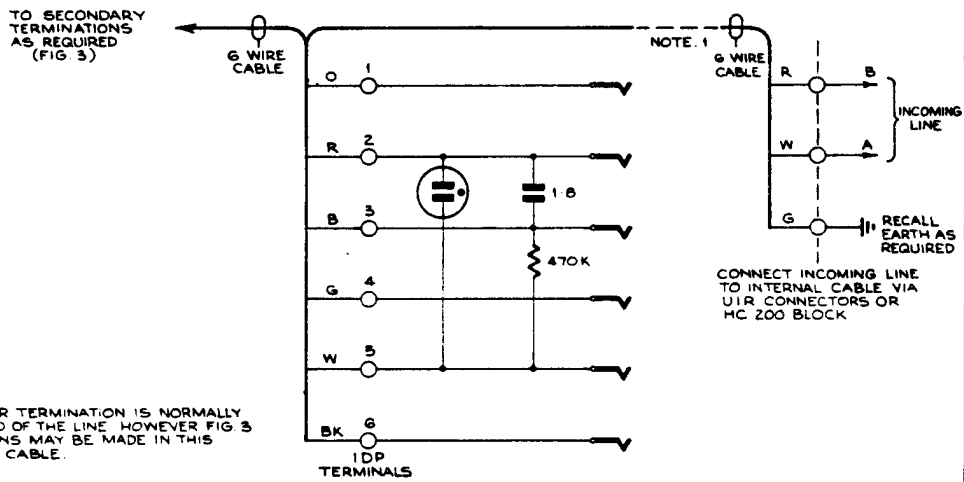

FIG. 1 MASTER JACK / BLOCK
3.1 The DTMF keypads are wired as shown in Fig. 1.
2.1 All Telephones (Fig. 1 and 2).
2.2 Extra Modification for Standard Technicians Telephone (without retard coil) Fig. 1.